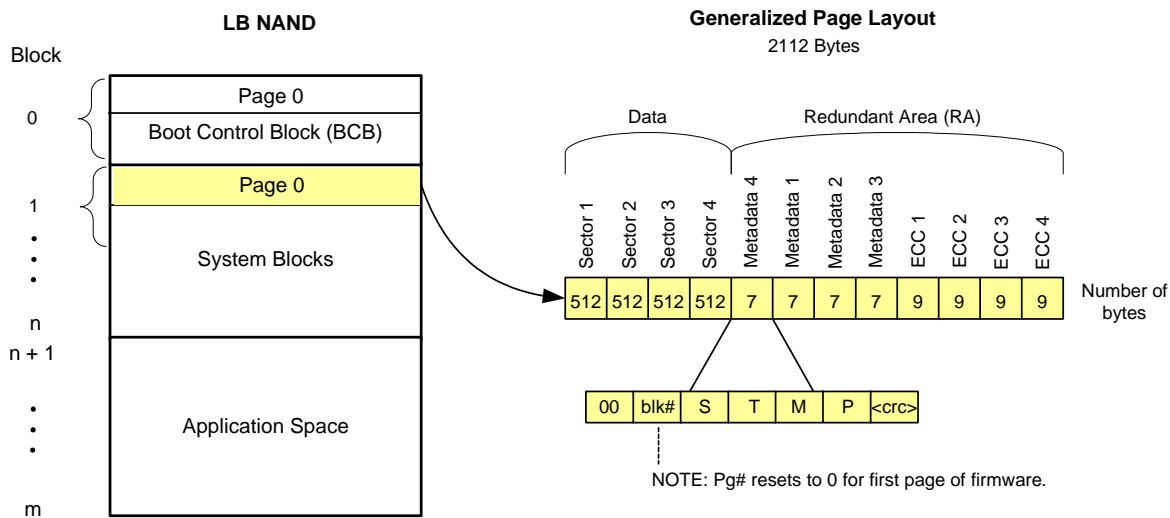

Figure 146. LB NAND with Generalized Page Layout Detail
Figure 146 illustrates an LB NAND with generalized page layout detail. (The specialized page layout required by the BCB is described in Section 32.4.5.4.)
LB NANDs are composed of blocks and typically have the following characteristics, as illustrated in Figure 146:
- Blocks 1 through n in the System Block are typically for the boot code, which is generated by taking the boot application, running it through the SigmaTel-supplied elftosb program with a cipher key to generate an encrypted file. Pages in these blocks follow the generalized page layout, as shown in Figure 146.